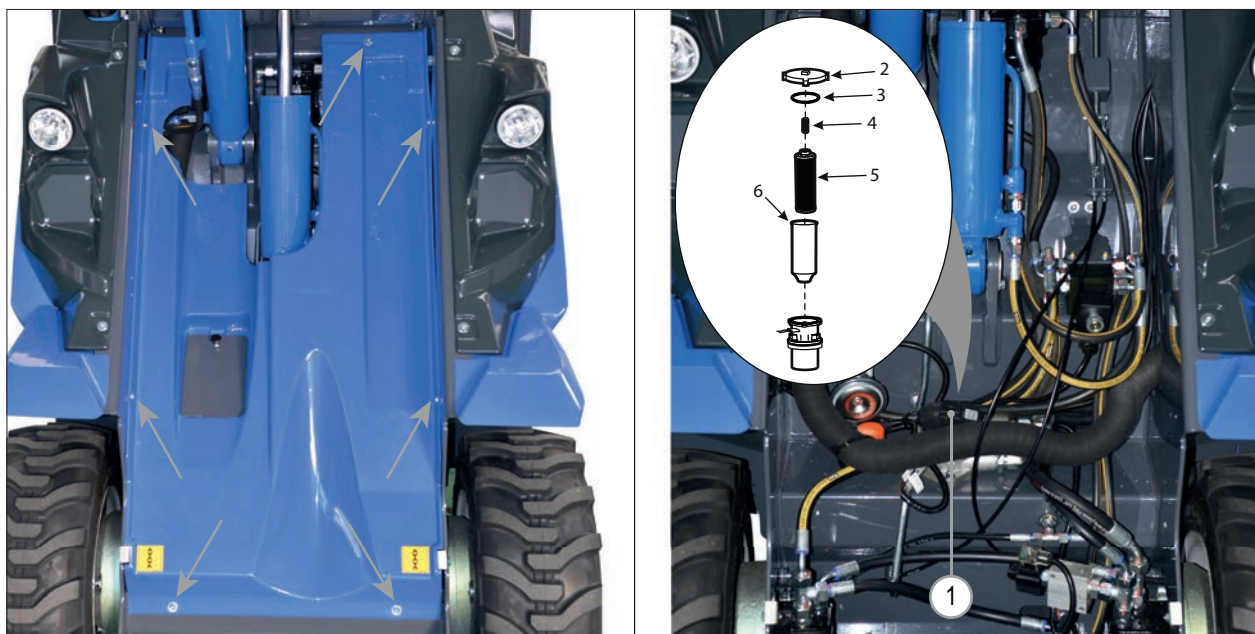

FIG. 47
- 3) Remove the front panel by loosening the screws that secure it to the frame (**see FIG. 47**).
- 4) Remove the filter cover by rotating the cover. It may be necessary to use a wrench to loosen the cover (**FIG. 47 - Ref. 1**).
- 5) Remove the spring (**FIG. 47 - Ref. 4**), and the filter element (**FIG. 47 - Ref. 5**) from the plastic sleeve (**FIG. 47 - Ref. 6**).
- 7) Reinstall the spring and inspect the filter cover O-ring for any signs of wear or damage. This O-ring is located in a groove at the top of the filter body (**FIG. 47 - Ref. 3**). Replace the O-ring in case of wear or damage.
- 8) Reinstall the filter cover (**FIG. 47 - Ref. 2**) and secure it.